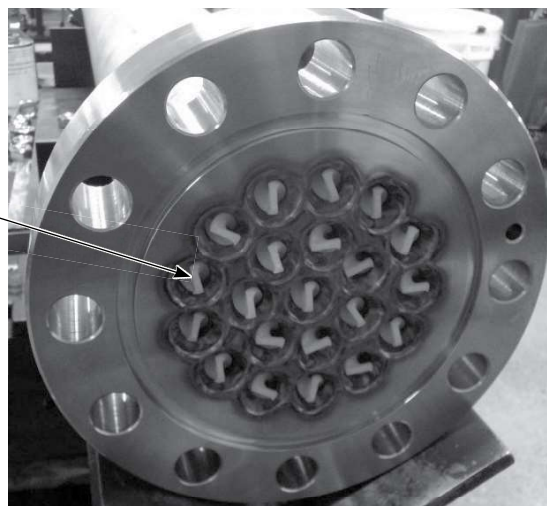

Figure 17 Heat Exchanger with Static Mixers
1. Clean the head assembly (6), tube sheet head (3), and O-ring groove (4) with a putty knife, clean rags, and a compatible solvent. Be careful not to damage the machined surfaces or O-ring grooves.
2. For heat exchangers with mesh disk (7), cut tack welds to remove mesh disk.
3. Push the ½ in. steel rod into each each tube (9) to remove coating material.
**NOTE:** See Figure 17. For units with static mixers, the heat exchanger may need to be replaced.
See Figure 17.